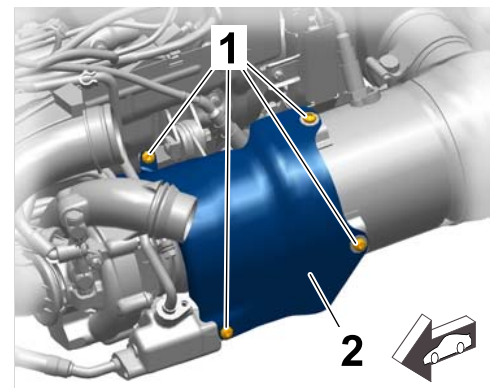

Figure 24
- 5.1 Remove heat shield for turbocharger at the left ⇒ *Figure 24 -2-* and right.